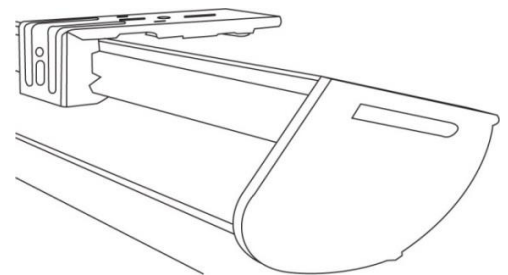

Figure 1
- i) Align the back of the headrail with the bottom hooks on the bracket (Figure 1)